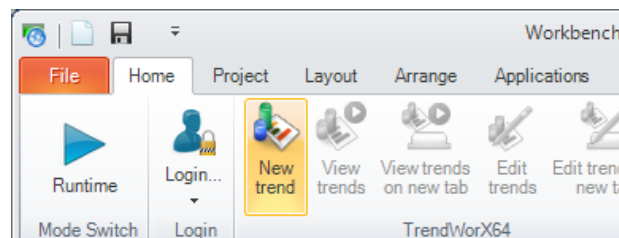

Figure L1.4 - Adding a New Trend
3. Now go to the Home ribbon, and click the New Trend button, shown in Figure L1.4. Notice how doing this opens a New Trend tab in the work area.